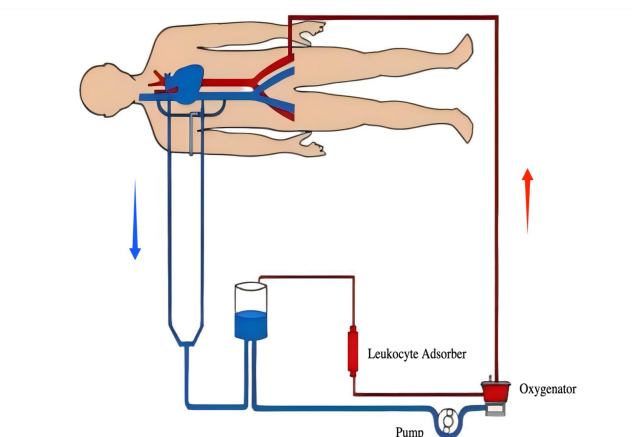

Figure 3. Illustrative Connection Diagram
11.2 Installation (Figure 3. Illustrative Connection Diagram)